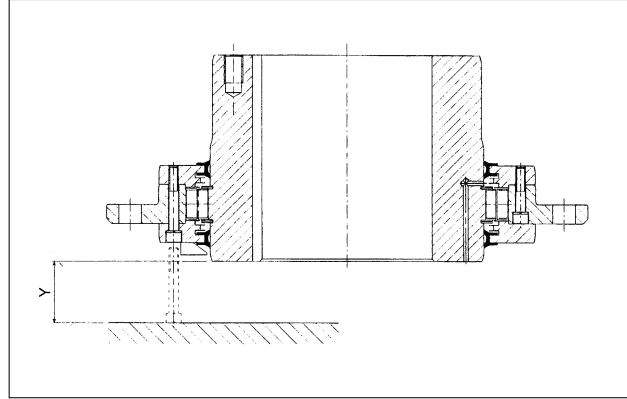

Fig. 15.
- If it is envisaged that there will not be space to mount the fixing screws, these may be previously introduced in their housings. Check the distance Y (Fig. 15); for this purpose, see Table 8.